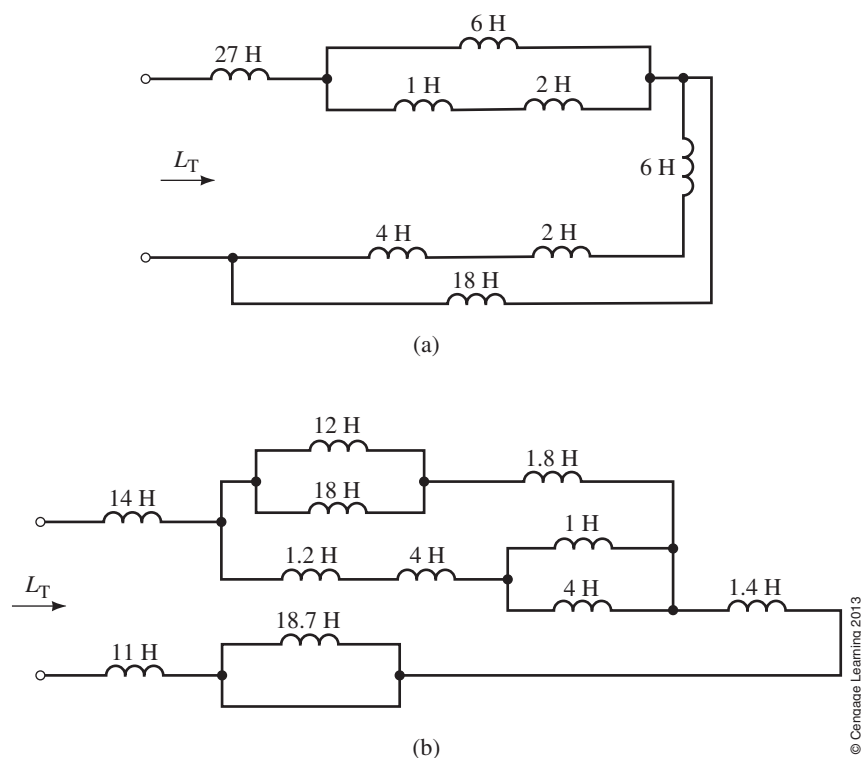

FIGURE 13-38
22. Determine L_T for the circuits of Figure 13-38.